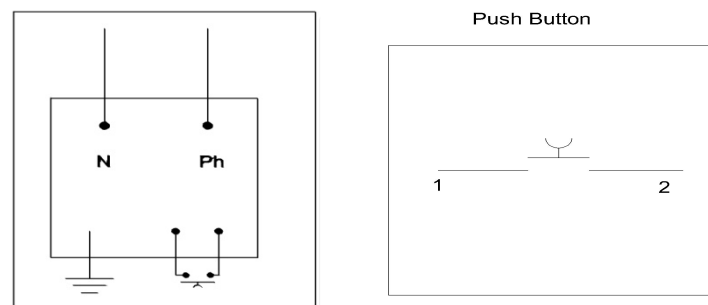

Figure 8.4: An electric Bell terminals' configuration and push-button terminals
3. Assemble all wires to the bell and push button as shown in Figure 8.4